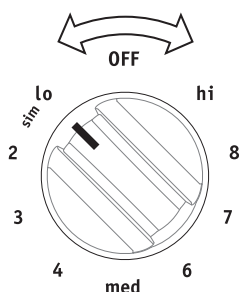

Figure 7: Control knob shown is typical only
2. Push in and turn the surface control knob in either direction to the desired setting (Figure 7). Start most cooking operations on a higher setting and then turn to a lower setting to finish cooking. Each surface element provides a constant amount of heat at each setting. A glowing red surface heating area extending beyond the bottom edge of the cookware indicates the cookware is too small for the surface heating area.